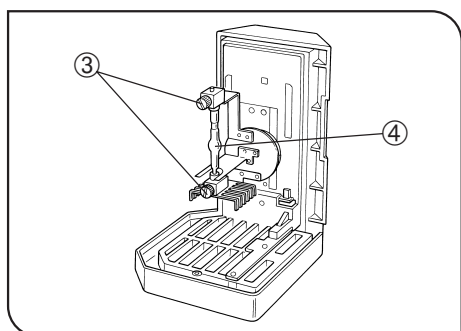

Fig. 19
1. Loosen the socket clamping screw ① using the Allen screwdriver.
- ★ To prevent malfunction, do not hold the lamp housing by the centering knobs ②.
3. Place the socket section upside down as shown in Fig. 19.
- ◎ The lamp housing is equipped with the holder for transportation in the factory shipment condition or with an old burner when the burner is replaced. Remove the holder or old burner by loosening the two burner holding screws ③.
4. Attach the + (positive) pole of a specified mercury burner ④ to the fixed mount on the upper side, then the - (negative) pole to the mount on the lower side.